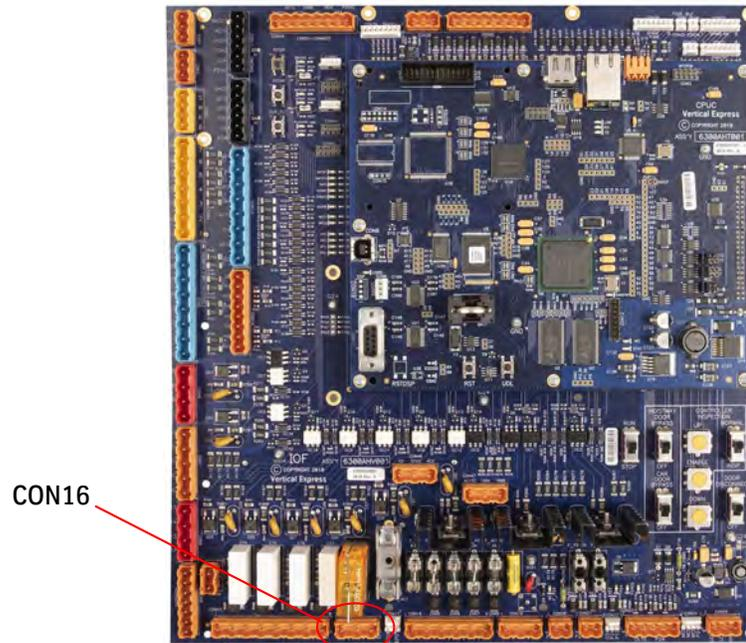

Figure 7 - IOF Card (6300AHV001)
1. Remove the plug at CON16 on the IOF Card. See Figure 7.